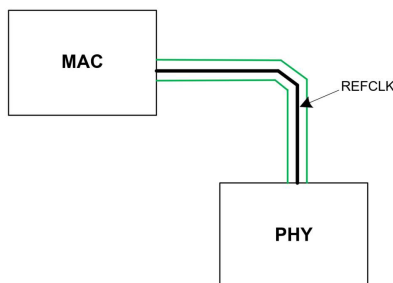

Figure 12-1 RMII REFCLK surrounded by GND
- Keep all RMII traces as short as possible, especially the trace of clock(REFCLK, EXT_CLK_OUT if used) and high speed signals (TXD/RXD) should be as short and wide as possible (compared to normal digital traces), it is better to have a ground plane under these traces. If possible, use a GND plane to surround them (Figure 12-1).